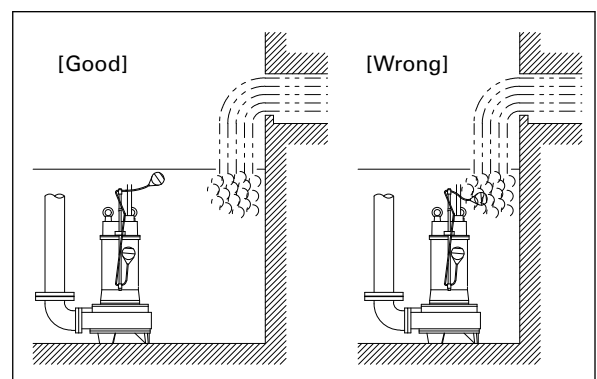

Fig. 1
11. In the case of automatic type drainage pump, be sure to keep the float switch away from the direct inflow of water. (Refer to Fig. 1) Otherwise, automatic operation does not work properly, which could cause air to be sucked in and/or lead to dry run.